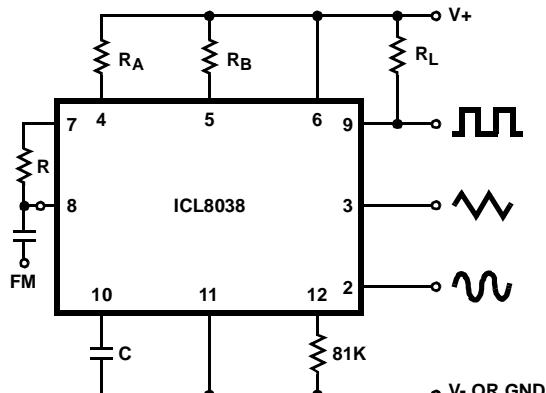

FIGURE 5A. CONNECTIONS FOR FREQUENCY MODULATION
3. $V_{SUPPLY} = 20V$; R_A and $R_B = 10k\Omega$, $f \approx 10kHz$ nominal; can be extended 1000 to 1. See Figures 5A and 5B.
The frequency of the waveform generator is a direct function of the DC voltage at Terminal 8 (measured from V+). By altering this voltage, frequency modulation is performed. For small deviations (e.g. $\pm 10\%$) the modulating signal can be applied directly to pin 8, merely providing DC decoupling with a capacitor as shown in Figure 5A. An external resistor between pins 7 and 8 is not necessary, but it can be used to increase input impedance from about $8\text{k}\Omega$ (pins 7 and 8 connected together), to about $(R + 8\text{k}\Omega)$.